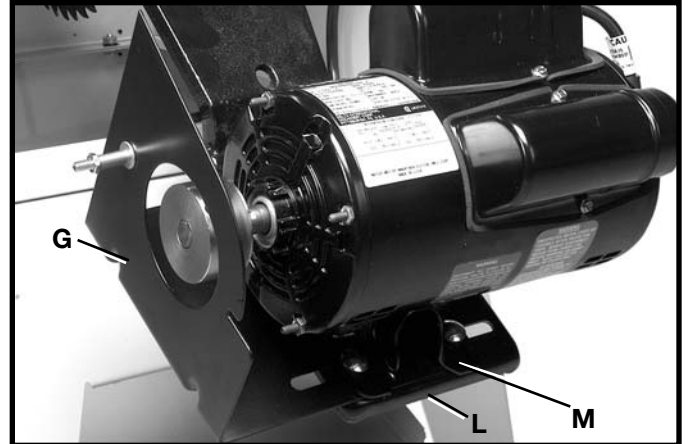

Fig. 18
4. Slide the belt and pulley guard bracket (G) Fig. 18, between the motor base plate (M) and motor mounting plate(L), as shown. Do not completely tighten the four hex nuts that fasten the motor to the motor mounting plate at this time.